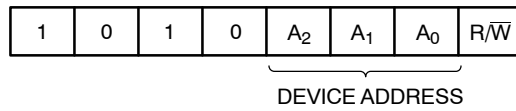

Figure 3. Slave Address Bits
The Master initiates data transfer by creating a START condition on the bus. The Master then broadcasts an 8-bit serial Slave address. The first 4 bits of the Slave address are set to 1010, for normal Read/Write operations (Figure 3). The next 3 bits, A2, A1 and A0, select one of 8 possible Slave devices. The last bit, R/ $\overline{W}$ , specifies whether a Read (1) or Write (0) operation is to be performed.